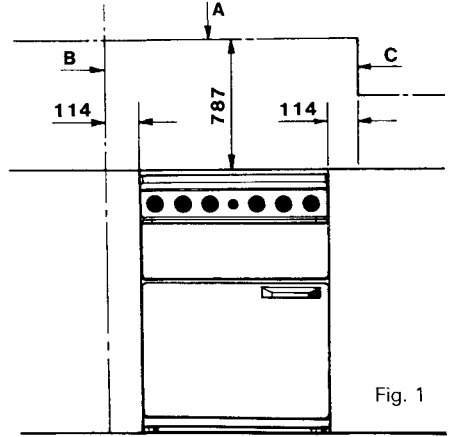

Fig. 1
**NOTE A** Shelves and wall cabinets must not be fitted closer than 787mm above the hotplate. See Fig. 1.
**NOTE B** If appliance fitted next to a side wall or cabinets which are above height of hotplate trims then a gap of 114mm is required. See Fig. 1.
**NOTE C** If wall cabinets are lower than 787mm to underside then there must be a gap of 114mm from the side of the appliance. See Fig. 1.